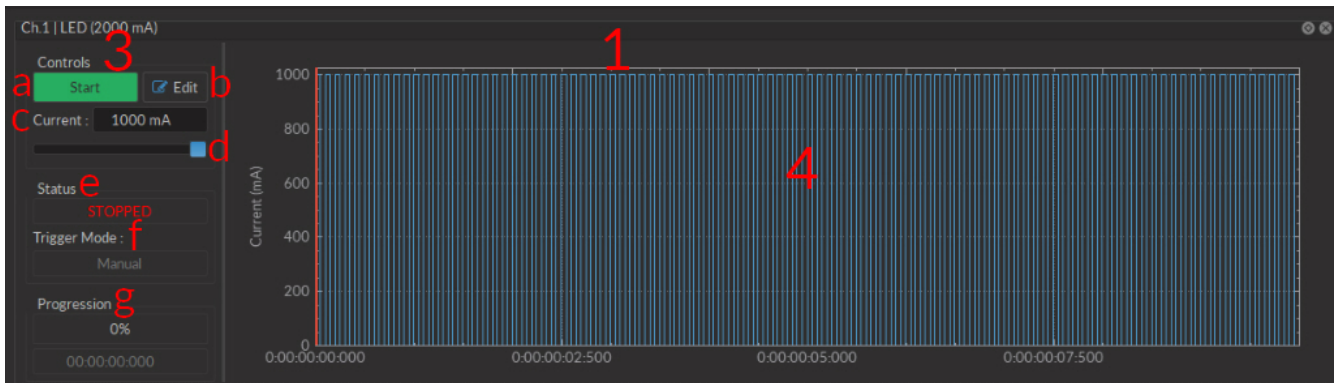

Figure 3.13: Experiment View, Light Source Channel
1. The **Light Source Channel** box (Fig. 3.13) contains all elements related to a single light source channel.